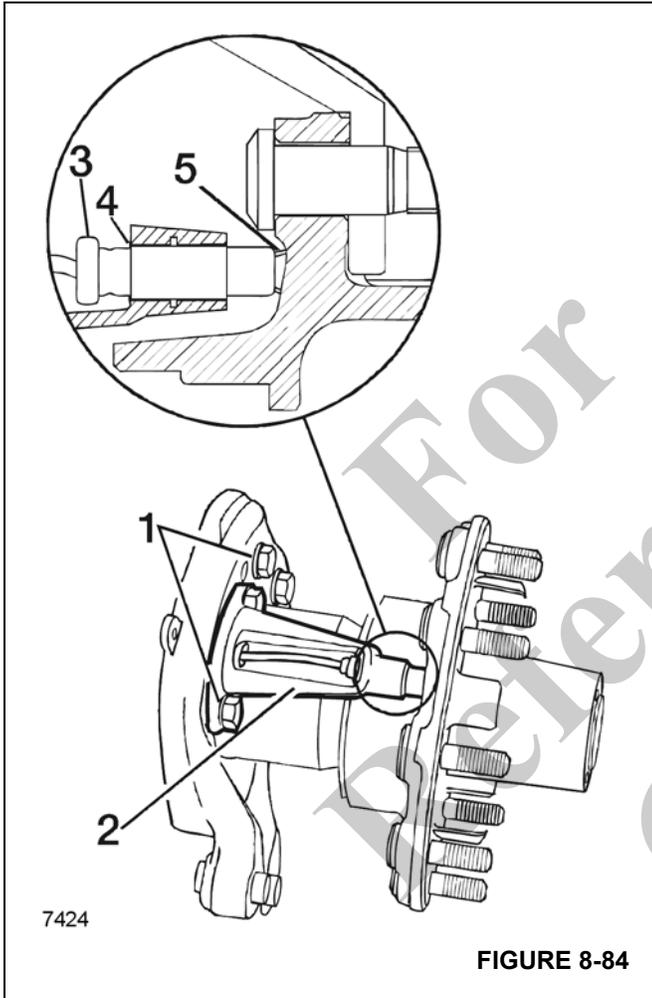

FIGURE 8-84
Refer to (Figure 8-84).
6. Remove the mounting bolts for the sensor bracket (2), (Figure 8-84). Cut the tie straps along the sensor cable. Remove the P-clips at the S-cam tube, bracket and frame rail. Using a slight twisting motion, remove the sensor from its mounting block. Use extreme care not to damage the tooth wheel or the sensor.
7. Remove the sensor spring clip (4), (Figure 8-84) from the mounting block.
1. Push the sensor spring clip (4), (Figure 8-84) all the way into the mounting block.